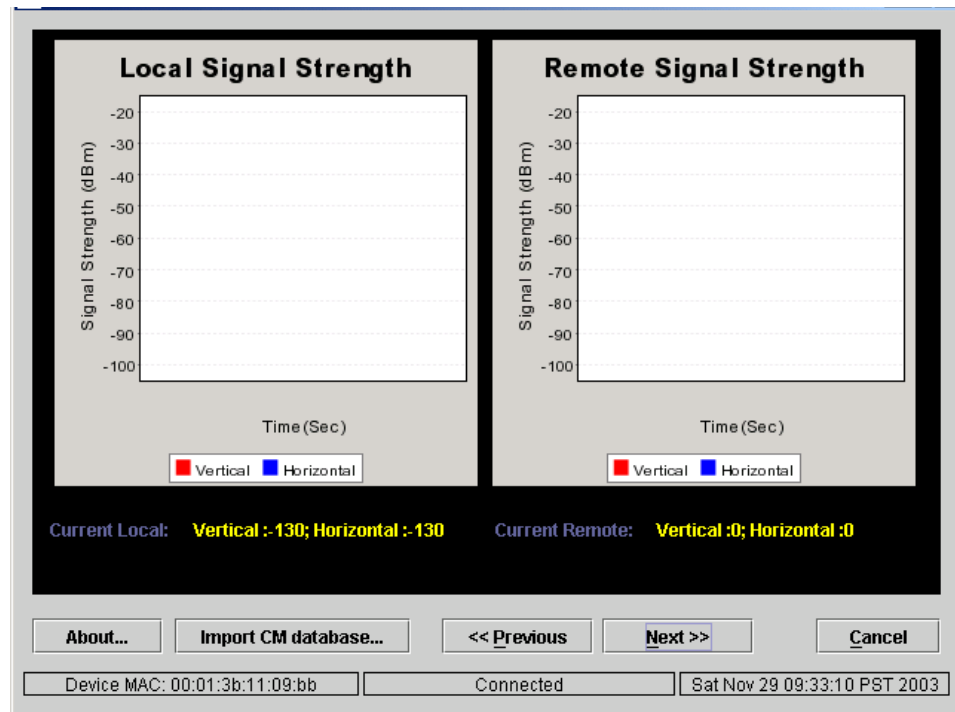

Figure 5-18 Link Status Window for PacketWave 200
3. The Link Status window shown in *Figure 5-18* will be displayed, showing local signal strength (as received by the SU) and remote signal strength (as received and reported by the BSU) over time.